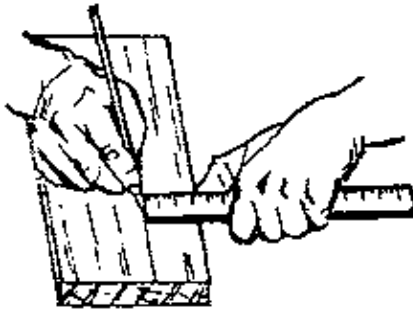

Fig. 2
– To gauge lines further from the edge of the board, use a rule and a pencil. Grasp the rule in one hand with your thumbnail at the desired marking. Then draw the rule along while keeping your thumbnail against the edge of the board. With your other hand hold a pencil at the end of the rule to make the line (Fig. 2).